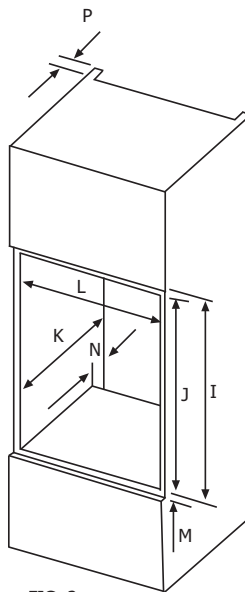

FIG 2
## **Refer to FIG.2 for the dimensional requirements.**
4. Ventilation is required for the product, to allow it to function correctly, a cutout should cut into the top of the housing unit (see FIG.2), to provide this.
The appliance is designed to fit into a standard 600mm wide housing unit, with minimum internal dimensions as shown in FIG.2 of the installation dimensions.